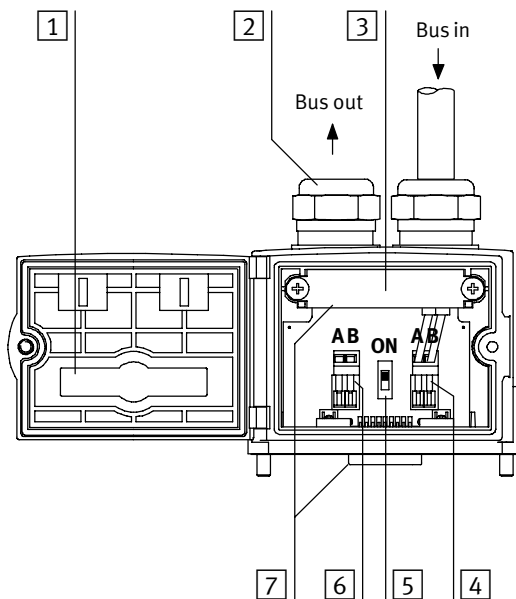

Fig. 1/3: Field bus plug from Festo type FBS-SUB-9-GS-DP-B
- Switch position ON: The bus termination is switched on and the continuing field bus cable is **switched off** (see Fig. 1/4).